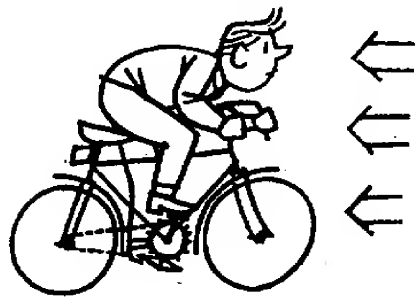

Fig. 19
First imagine that you are cycling at a constant speed against a steady head wind. The forward force will be equal to the force of friction plus the wind force (Fig. 19). Suppose now that the wind suddenly drops and that you continue to exert the same force on the pedals. *What will happen to your speed?* (14) The forward force is now greater than the opposing forces. This results in an acceleration.